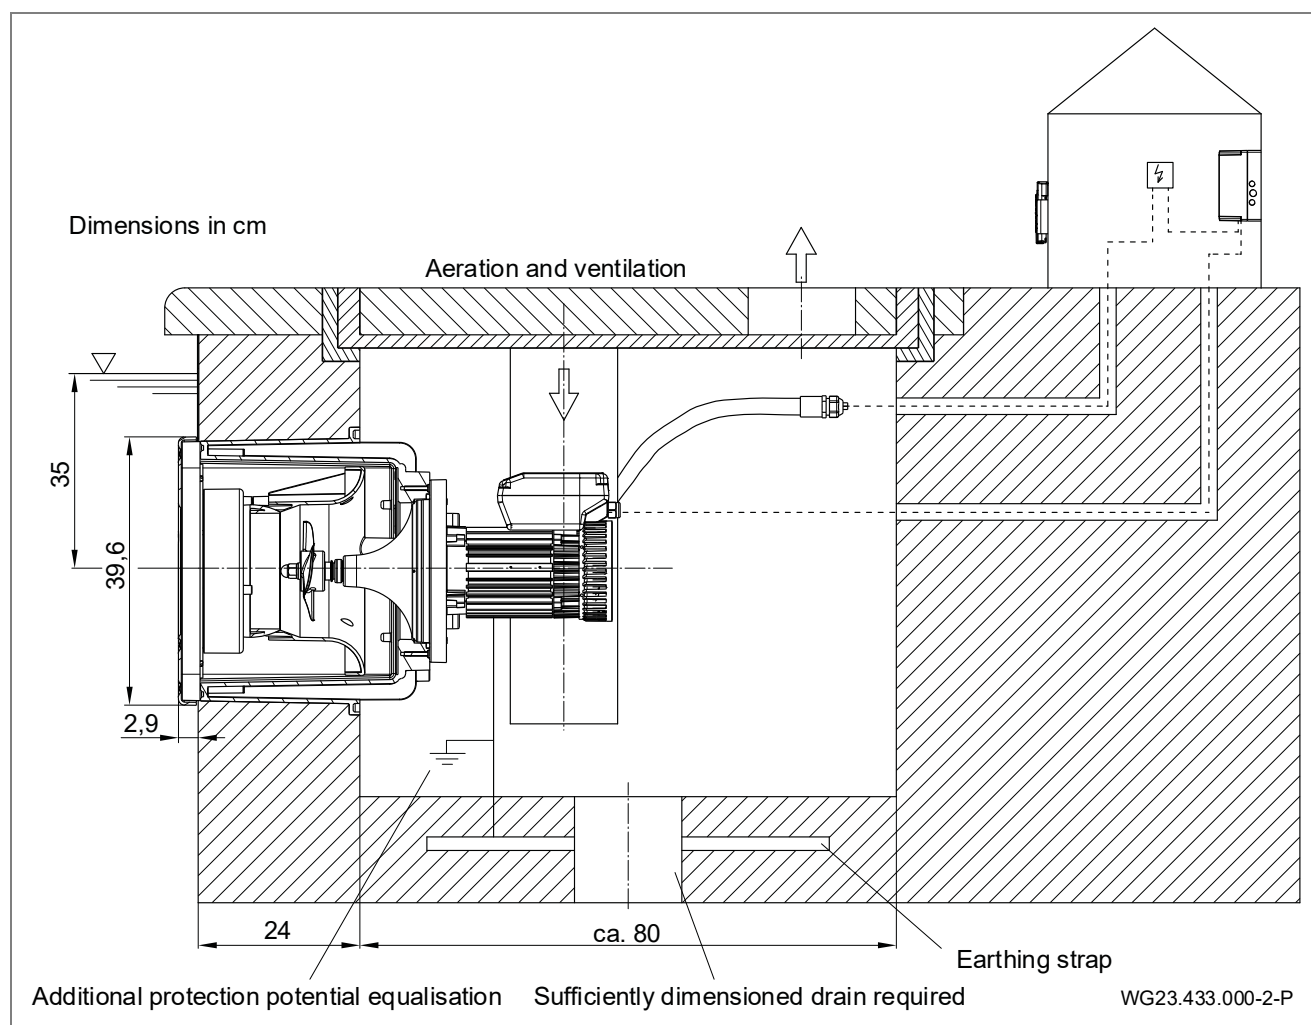

Fig. 17
1. Remove grease from the connection nozzle (d, see "Fig. 17" on page 21) on the plastic housing (1) and the connection socket of the cable protection tube (12) with PVC-U/ABS cleaner.
The system must be installed in a shaft which borders the edge of the pool. The installation space must have perfect ventilation and sufficient ground drainage. There must be a fastening possibility for the cable protection hose (above the water level if possible). There must be a potential equalisation connection in the shaft. See point "Fig. 17" on page 21.